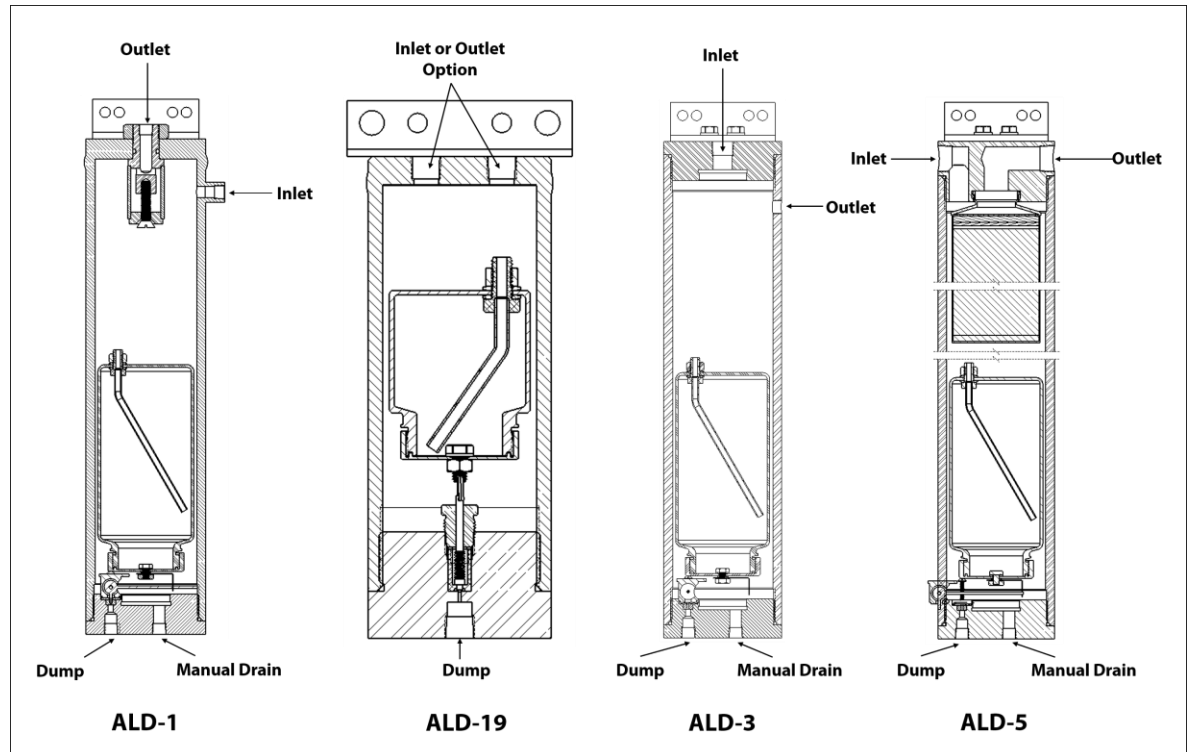

Figure 1
- 2.2.1 Install a valve on the relief port at the bottom of the dump (see Figure 1).